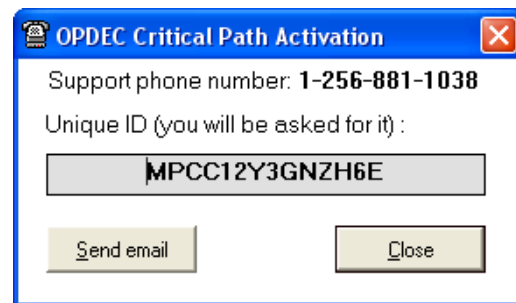

Figure 2b
- i. Send us an email or contact our support desk for more help. (Figure 2b)